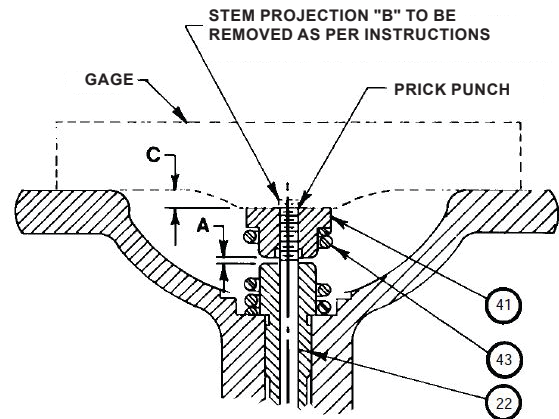

Figure 5. Travel Setting
3. Remove the seat ring (key 15) from the body with a socket wrench.
6. Lap in joint between new stem (key 22) and disk (key 24).
7. Apply lapping compound to the disk, place it on the stem and secure with a stem nut (key 25). Slip the stem into its normal position and lap the disk to seat joint.
8. Screw on the pusher plate (key 41), omitting the valve spring. Hold the disk on the seat and adjust the pusher plate until dimension (C=11/64 in. / 4.37 mm) is obtained. See Figure 5).